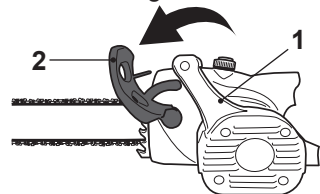

Fig. 17
- > The chain brake (2) in the engaged position, the saw chain is stopped as soon as the chain brake is activated (Fig. 17).